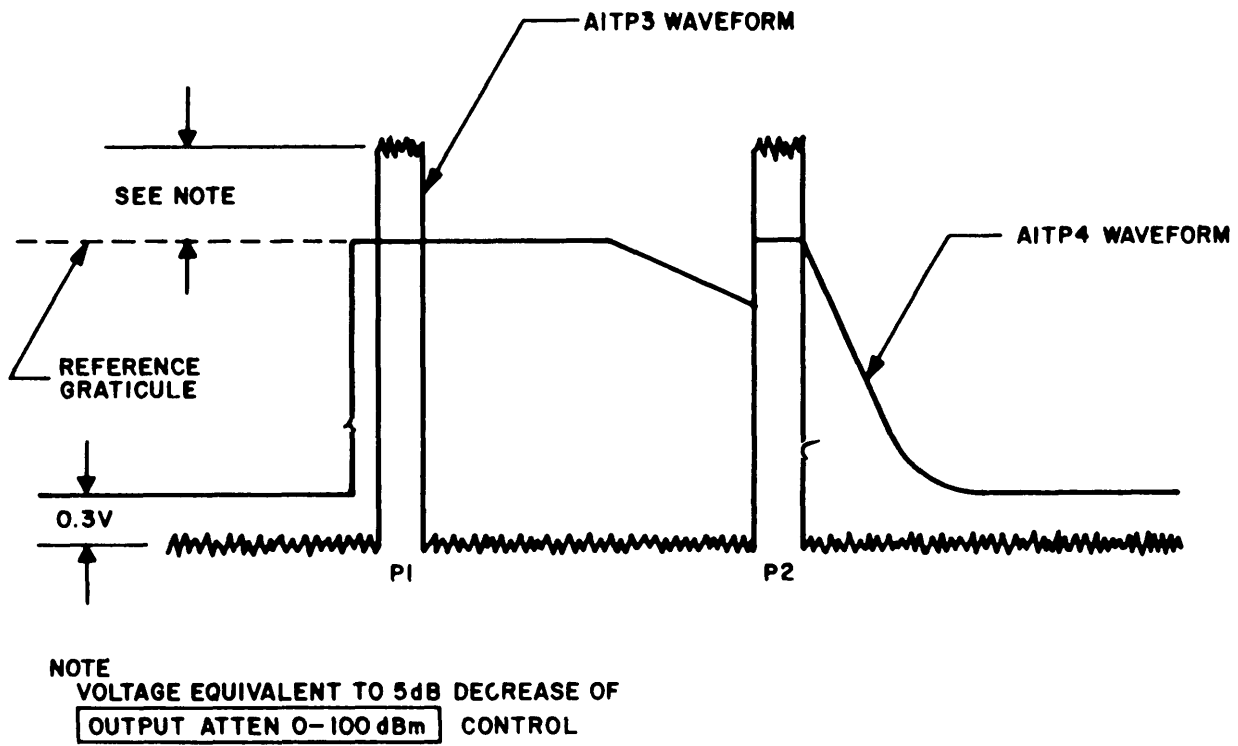

Figure 4-40. Normal Sensitivity Adjustments
3A. Normal sensitivity adjustments for transponders equipped with AR3, Part No. 4023409-0503 (Cont)	<p>h. Disconnect scope probe from A1TP5 and reconnect to A1TP3. Refer to figure 4-40 and adjust the OUTPUT ATTEN 0-100 dBm control to position the top of the pulse waveform at A1TP3 on a reference graticule near the top of the scope face. Increase the signal level by 5 dB (decrease the OUTPUT ATTEN 0-100 dBm setting). Adjust A1R6 to position the top of the waveform at A1TP4 on the reference graticule.</p> <p>i. Adjust OUTPUT ATTEN 0-100 dBm dial to obtain -47 dBm at ANT. J5 on receiver-transmitter. Disconnect jumper between AUX MOD IN and CHAL/TAG VAR AMP OUT, and connect it between MOD OVERRIDE (CW) and MAIN MOD IN. Set C-6280(P)/APX (AN/APM-239) M-1, M-2, M-3/A, and M-C switches to ON.</p> <p>j. Connect oscilloscope probe to A1TP2 and adjust A1R22 slowly cw until circuit begins to trigger on noise. Then adjust A1R22 an additional 1/4 turn cw.</p>